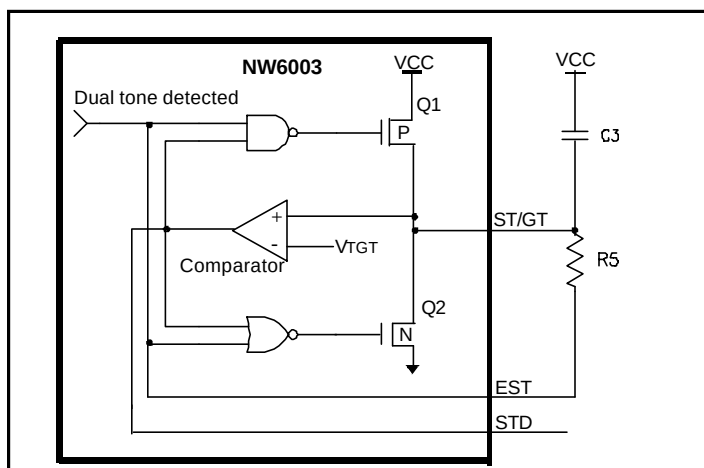
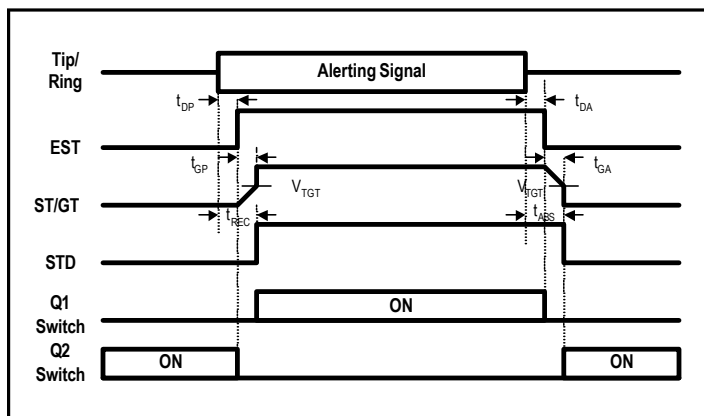
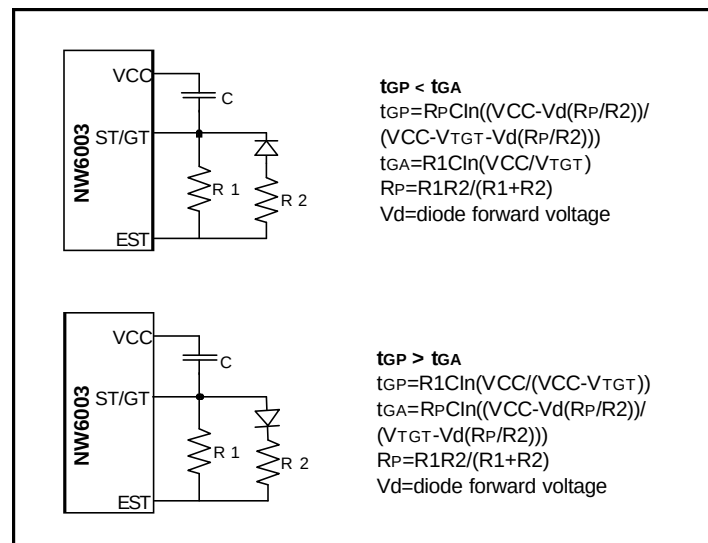

Figure 7. Guard Time Circuit of Dual Tone Alert Signal Detection
Figure 8. Guard Time Waveform
Figure 9. Guard Time Circuits with Unequal Present and Absent Times
Figure 7 shows the operation of the guard time circuit and Figure 8 shows the waveform of the EST, ST/GT and STD pins. The total recognition time is $t_{REC} = t_{DP} + t_{GP}$, where t_{DP} is the tone present detection time and t_{GP} is the tone present guard time. The total absent time is $t_{ABS} = t_{DA} + t_{GA}$, where t_{DA} is the tone absent detection time and t_{GA} is the tone absent guard time. The guard time is the RC time constant for the capacitor charge to VCC or discharge to GND. To get the unequal present and absent guard time, a diode can be connected as shown in Figure 9 to provide different RC time constant (varying resistance value) during charging and discharging.
When the system is first powered up, $\overline{\text{TRIGOUT}}$ will be low (C3 at TRIGRC has no initial charge) and STD will be high if PWDN is low (no charge across the capacitor at ST/GT pin in Figure 7), interrupt signal will be generated. The microcontroller should ignore interrupts from these sources on the initial power up until there is sufficient time to charge the capacitors. Also, by asserting PWDN high immediately after system power up, STD will become low and no interrupt will be generated. In power-down mode, EST and comparator output are forced low, the charging switch will turn on, and the capacitor at ST/GT pin will charge up more rapidly.
- 2) By choosing $t_{\text{GA}}=15\text{ ms}$, t_{GBS} will be 15-25 ms (refer to Figure 8). Current wetting pulse and AC/DC load should be applied right after the STD falling edge.